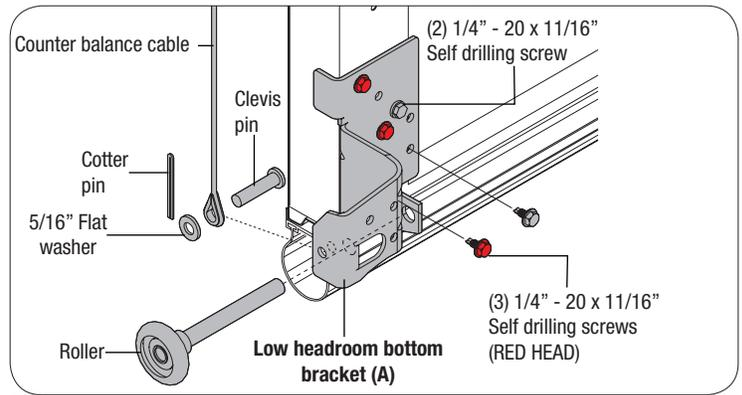

FIG. 3.1
Identify the low-headroom bottom brackets provided with your door (**A, B or C**). Place them, left and right onto the bottom corners of the section. Seat the bottom brackets against the edge of the section, as shown in **FIG. 3.1** and **3.2**.
Secure the low headroom bottom bracket to the section with (3) 1/4" - 20 x 11/16" self drilling screws (RED HEAD) and (2) 1/4" - 20 x 11/16" self drilling screws, as shown in **FIG. 3.1**.
Place roller into holes of each bottom bracket, as shown in **FIG. 3.1**.